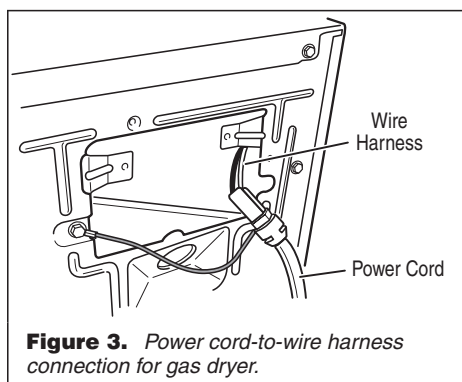
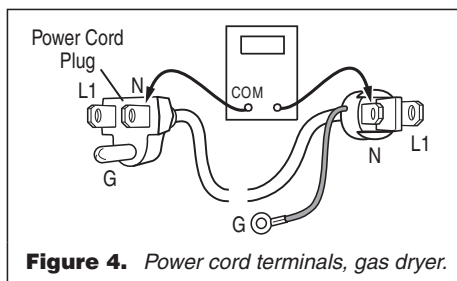

Figure 3. Power cord-to-wire harness connection for gas dryer.
Figure 4. Power cord terminals, gas dryer.
3. Check that the power cord is firmly connected to the dryer's wire harness. See figure 3.
5. With an ohmmeter, check for continuity between the neutral (N) terminal of the plug and P1-2 (white wire) on the machine control
board. The left-hand side of figure 4 shows the position of the neutral terminal (N) on the power cord plug.
- If there is no continuity, disconnect the white wire of the harness from the power cord at the location illustrated in figure 3. Test the continuity of the power cord neutral wire as shown in figure 4. If an open circuit is found, replace the power cord. Otherwise, go to step 6.
- If there is no continuity, check the continuity of the power cord in a similar way to that illustrated in figure 4 but for power cord L1 wire.